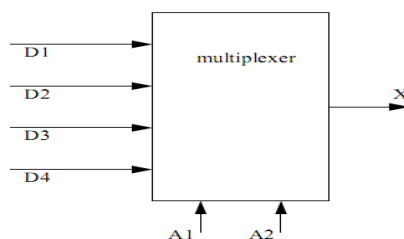

Fig. 5C
- 5C Design digital circuit and ladder logic for the multiplexer shown in Fig. 5C (4+3+3)